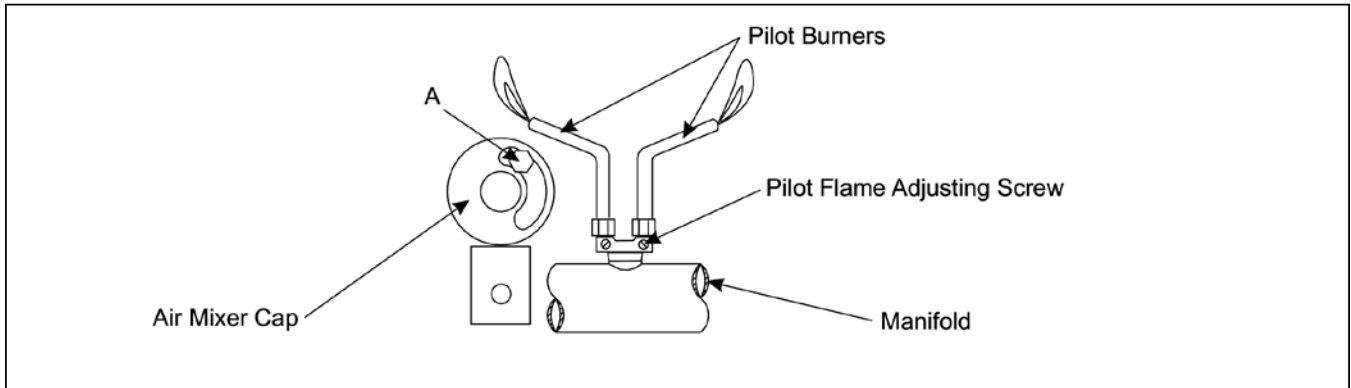

Figure 2: Air Mixer Cap And Pilot Burners
- (b) If the flame appears yellow, loosen the air-mixer cap hold down screw "A" (see figs. 2 and 3). Rotate the air mixer cap counter-clockwise to allow more air into the burner, until the flame turns blue. Tighten the screw.
The pilot flame can be adjusted by turning the appropriate adjusting screw using a screwdriver or a 3/16 wrench (see fig. 2), counter-clockwise to increase, clockwise to decrease and close. The pilot flame should be about 1/2 inch long.
- (b) Check to see if the pilot flame is lit. Each burner has its own pilot, which is located on the manifold along the front of the charbroiler (see Fig. 2).